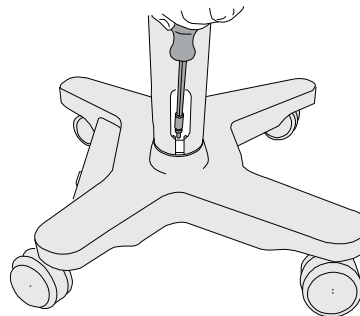

Figure 6 Tighten screws (side shown).
- 6 Using the magnetic screwdriver, insert and tighten the three additional 12mm Allen-head screws into the column: one at the back, and one on each side. See Figure 6.